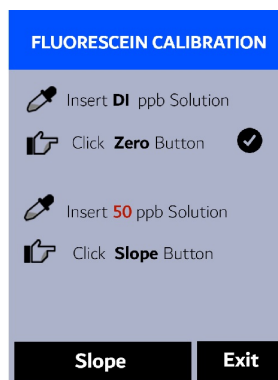

Figure 22.
6. If the calibration succeeds, a checkmark (  ) and instructions for the 50 ppb slope calibration will appear (Figure 22).